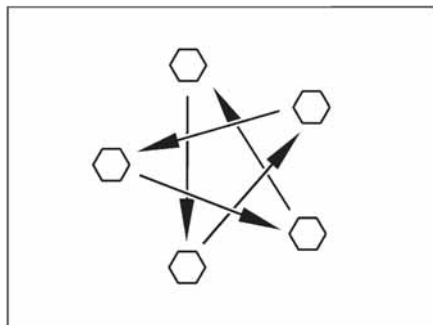

Fig. 169 Tighten the wheel nuts or wheel bolts cross-wise
- Check regularly that the wheel nuts or wheel bolts are firmly seated. Re-tighten the wheel bolts of a changed wheel cross-wise after 50 km (30 miles) (Fig. 169).
- ▷ Tighten the wheel nuts or wheel bolts cross-wise (Fig. 169).